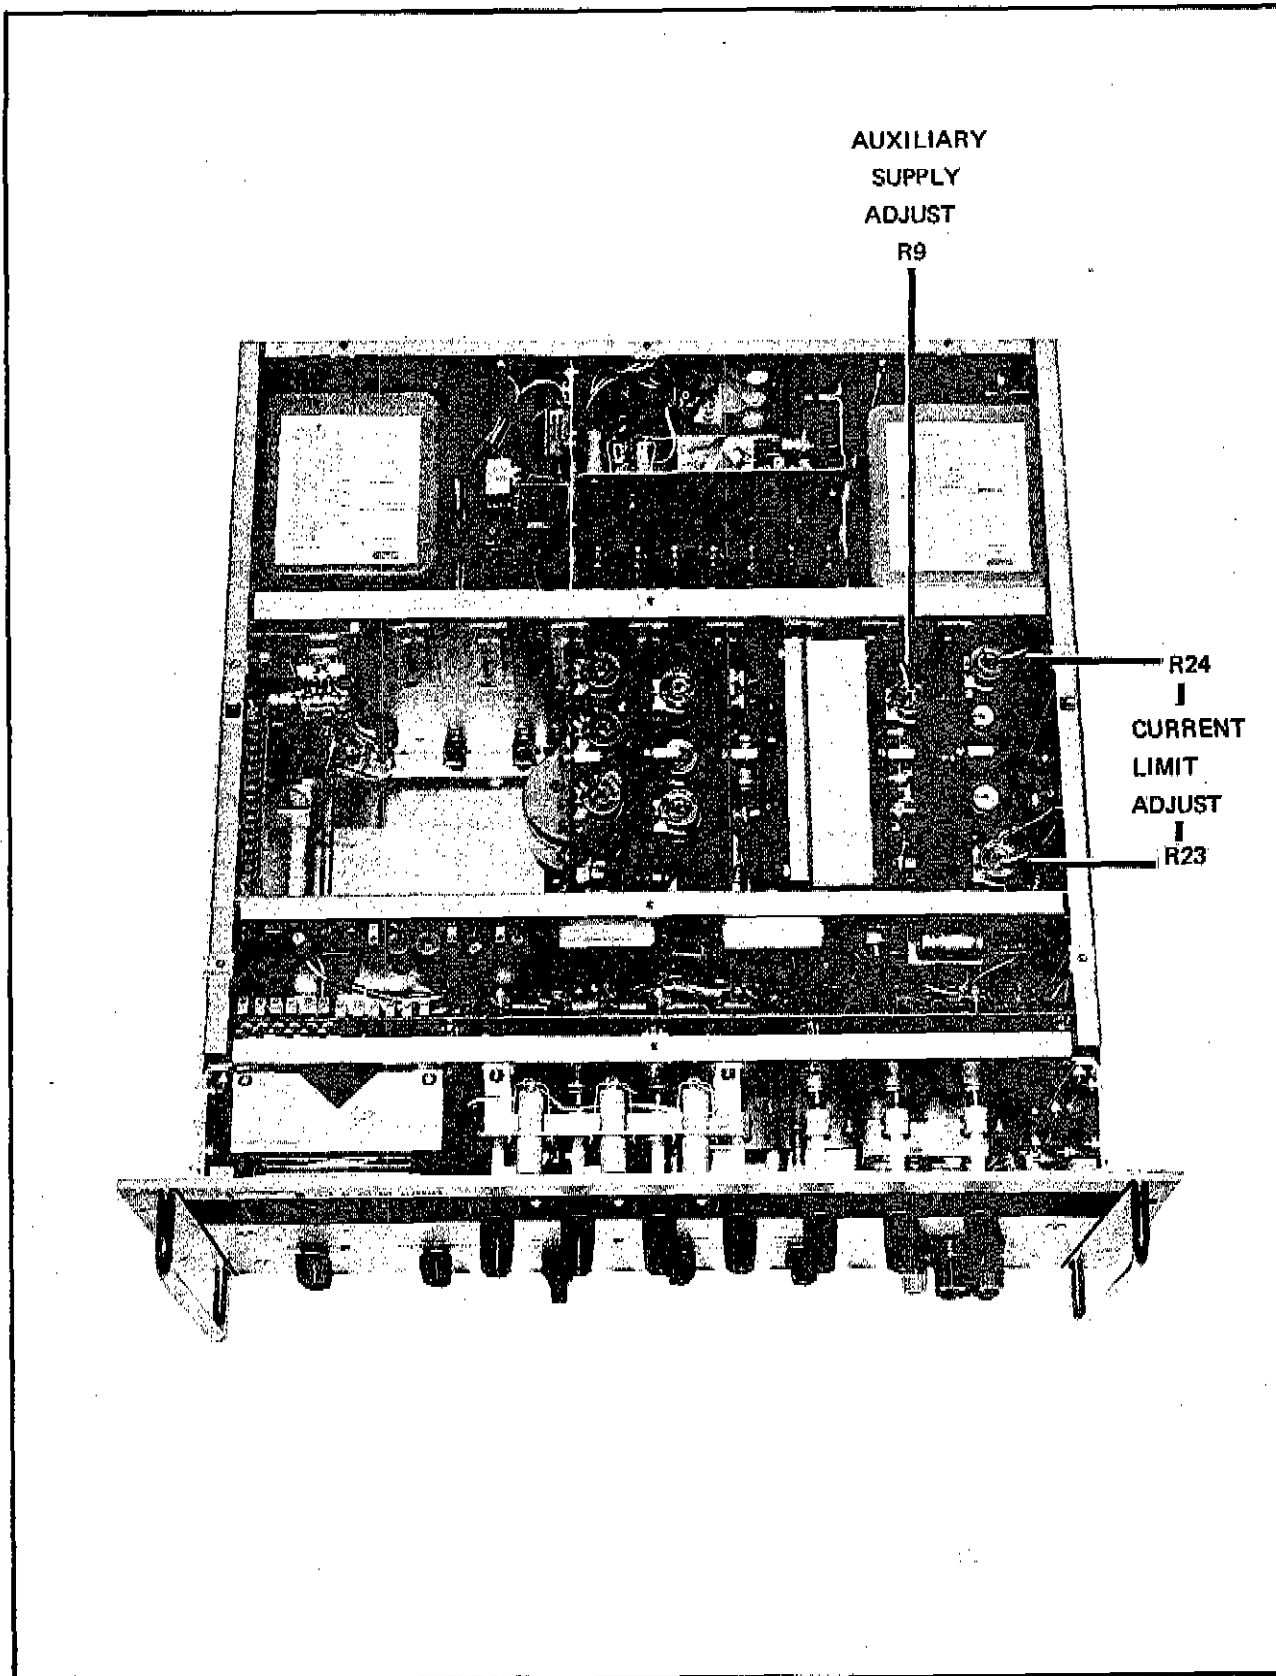

Figure 4-7. LOCATION OF ADJUSTMENTS
- b. Referring to Figure 4-7, adjust R9 until the Model 885A indicates 25 volts, ± 10 millivolts.
- c. Referring to Figure 4-7, adjust R23 for a 60 milliampere indication on the external meter.
- d. Rotate the CURRENT LIMIT control maximum counter-clockwise. Referring to Figure 4-7, adjust R24 for a 2 milliampere indication on the external meter.